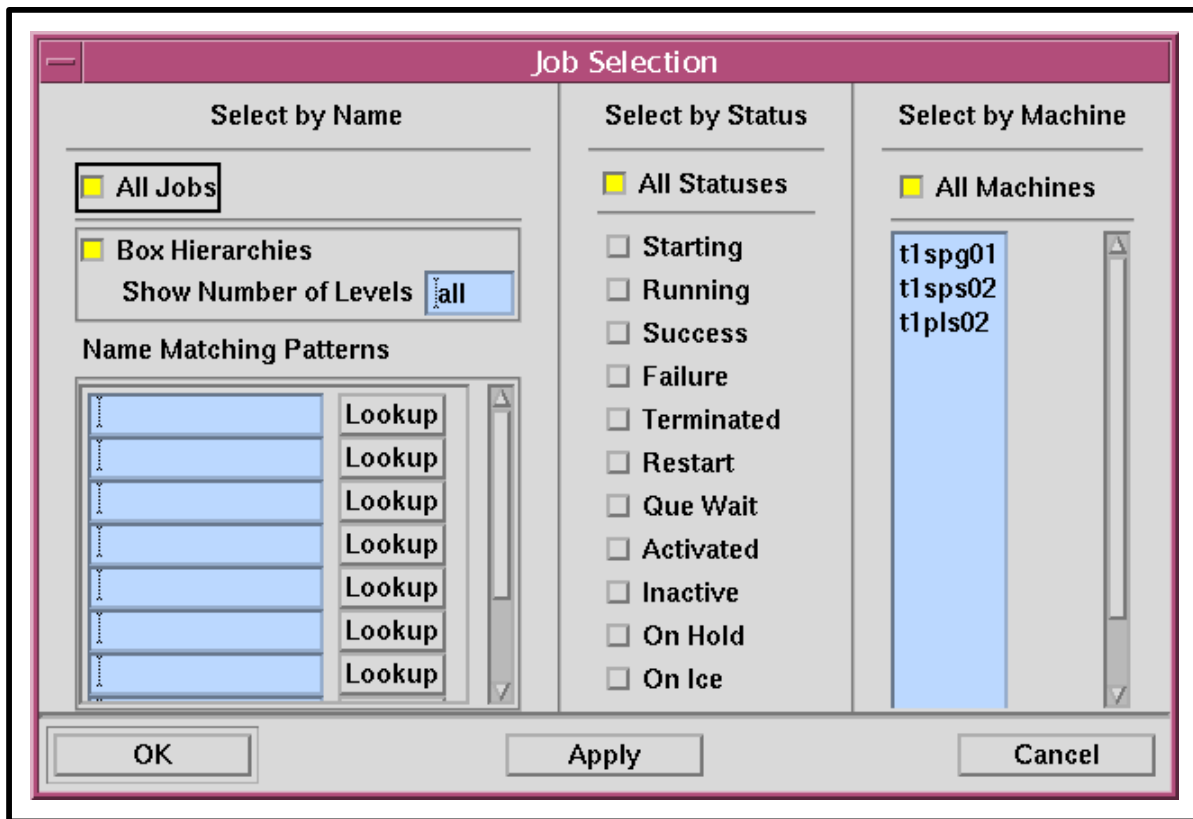

Figure 58. Job Selection Dialogue Box
- **Job Selection** dialogue box (Figure 58) is displayed.